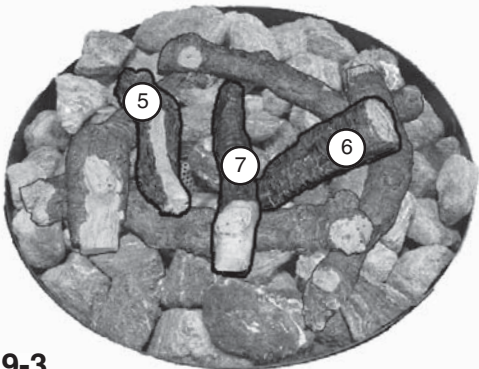

Fig. 19-3
4. Lay the remaining logs across the already positioned logs in an attractive pattern (see Fig. 19-3).